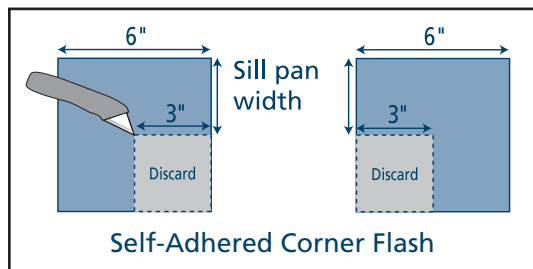

Fig. 7 Cut self-adhered flashing
- For doors on continuous slab, cut out the inside corner as shown in **Fig. 7**: